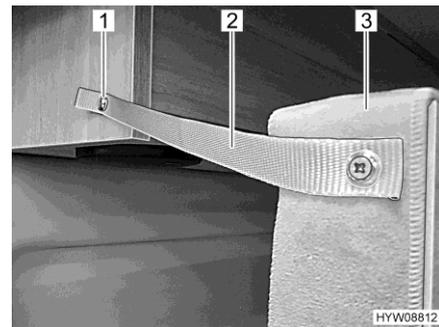

Fig. 63 Securing, back
- Secure the bed (Fig. 63,3) to the roof storage cabinet using the securing strap (Fig. 63,2) and snap fastener (Fig. 63,1).
- Undo the snap fastener (Fig. 63,1) on the roof cabinet.